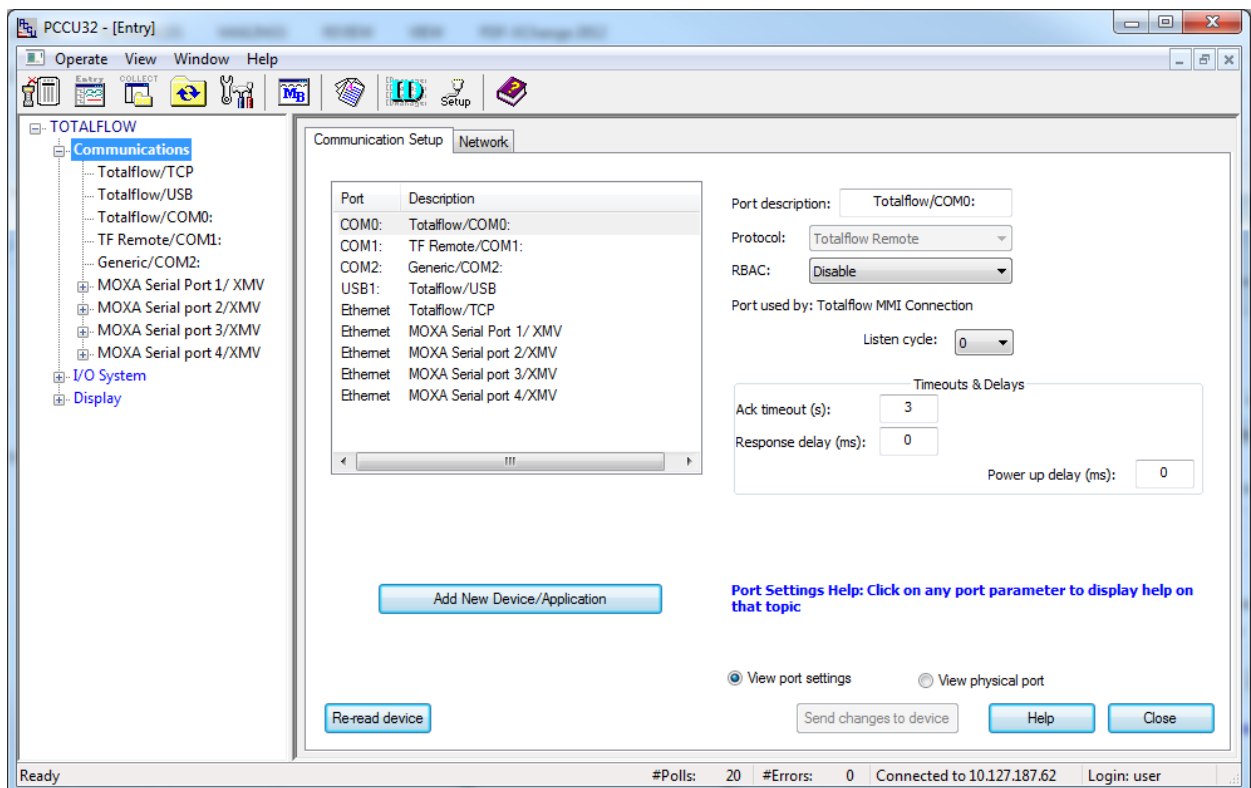

Figure 97: XMV applications mapped to four MOXA® ports
13. Repeat steps 2 – 12 for each serial port as needed. If all ports are used and configured, there should be four applications to handle the communication for each port (Figure 97).